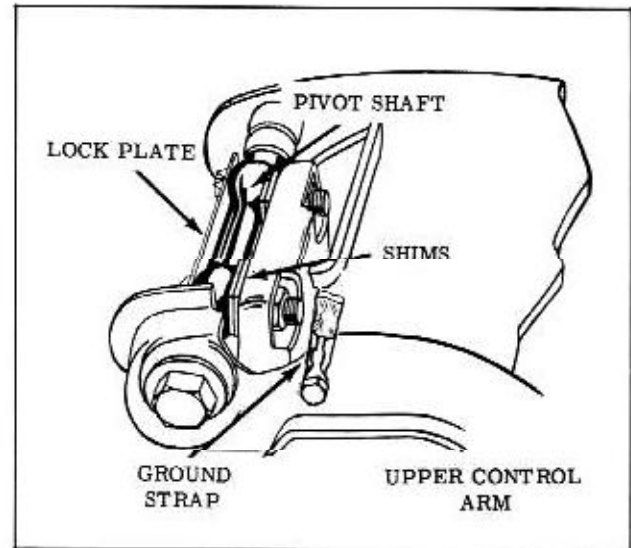

Fig. 5-10 Upper Control Arm Mounting
5. Using a 7/8" deep flex socket with a long extension, remove the pivot shaft to frame attaching nuts from under the fender. (Fig. 5-10) Remove wheel alignment shims, control arm and pivot shaft assembly from car.
2. Remove the temporary support from the hub and drum, then connect ball joint to steering knuckle. Torque nut 40 ft. lbs. (minimum) and install cotter pin. Tighten nut further, if necessary to install cotter pin. Attach ground strap to control arm. (Fig. 5-10)